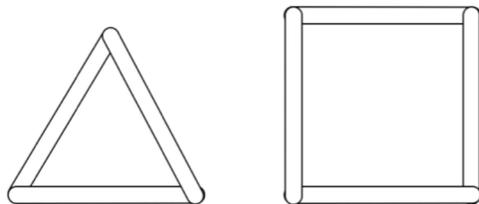

Figure 1
3. Students will create one square and one triangle by gluing the ends of each stick together. See Figure 1 for example.